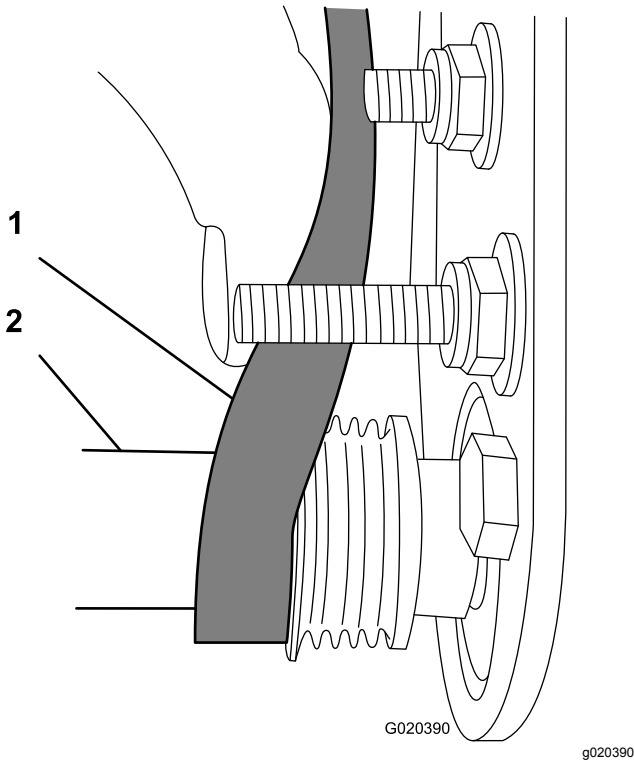

Figure 36
- Use a 9/16 inch deep-well socket to rotate the brush assembly and guide the belt onto the driven pulley (Figure 36).